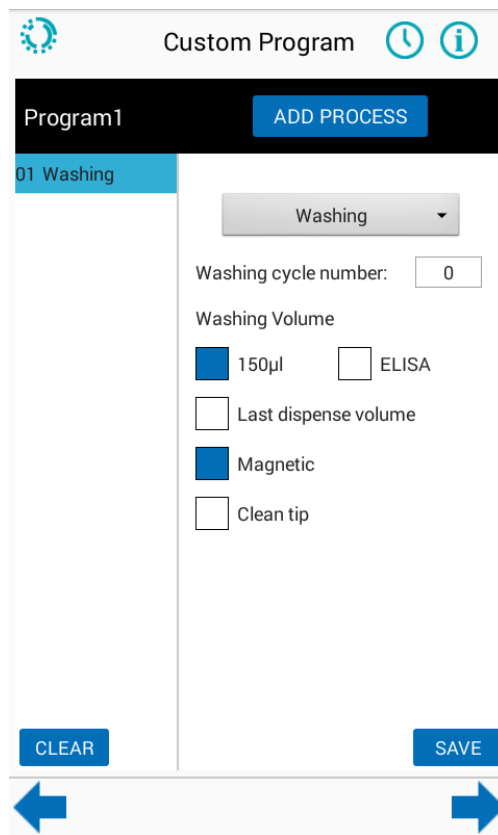

Fig. 16. Parameters of custom washing procedure
**Washing:** Users can setup various conditions listed below during the washing process (Fig. 16).
- (A) **Number of Washing Cycles:** Key in the desired number of washing cycles.
- (B) **Washing Volume:** Users can either select the 150  $\mu\text{L}$  washing volume (used for all  $\pi\text{Code}$  applications) or the ELISA wash function (which will dispense 200  $\mu\text{L}$  wash buffer).
- (C) **Last Dispense Volume:** If the function is activated, additional 150  $\mu\text{L}$  of wash buffer will be dispensed into each well at the end of the wash cycles followed by 10 sec shaking to spread out/disperse the  $\pi\text{Code}$  evenly. If the function is not activated, no liquid will be left in wells after washing process. It is recommended to only activate this function if the wash step ends the program and the plate is subsequently analyzed by the PlexBio 100 Fluorescence Analyzer.
- (D) **Magnetic:** Must be activated for all  $\pi\text{Code}$  assays. The magnet will collect and retain  $\pi\text{Code}$  at the bottom of the well and only the liquid waste will be aspirated during washing process. The magnetic function is not needed for ELISA assays.
- (E) **Clean Tip:** To prevent any carryover contamination between samples placed in different wells, click on this function and the tips will be cleaned before approaching to next set of wells. The tip cleaning will only be performed at the 1st cycle of each washing process.